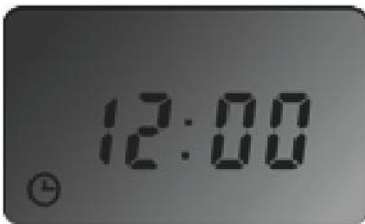
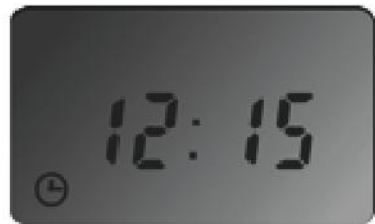

Figure 1-9
Figure 1-10
- 2.1 Keep pressing “**PROG**” for 3s to set the local time. The hour digits flicker. Press “(+)” or “(-)” to regulate the hour. Refer to Figure 1-9. Then short press “**PROG**” to set the minute digits. They flicker. Press “(+)” or “(-)” to regulate the minute. Refer to Figure 1-10.